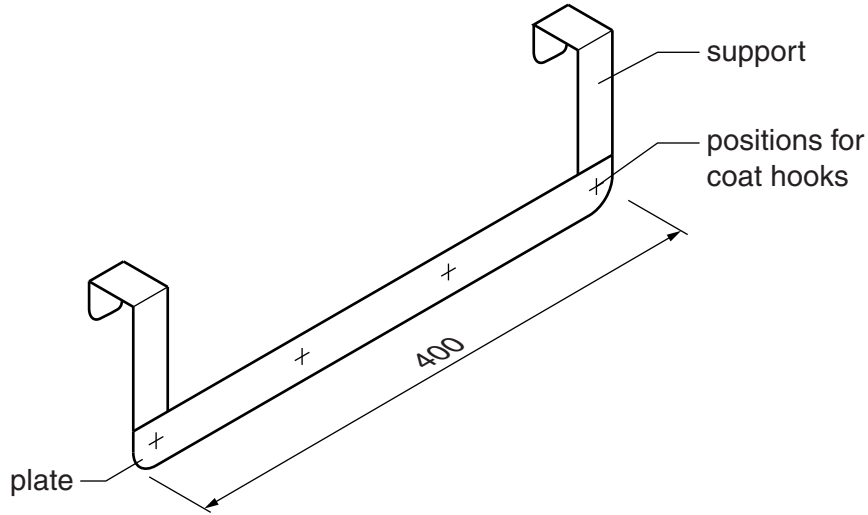

Fig. 10
- 11 Fig. 10 shows an incomplete design for a coat rack that fits over the top of a door. The coat rack is made from 1 mm thick metal strip and will be made in a school workshop.
(e) The coat rack in Fig. 10 could be made from brass.
(g) (i) The positions for four coat hooks are shown in Fig. 10.